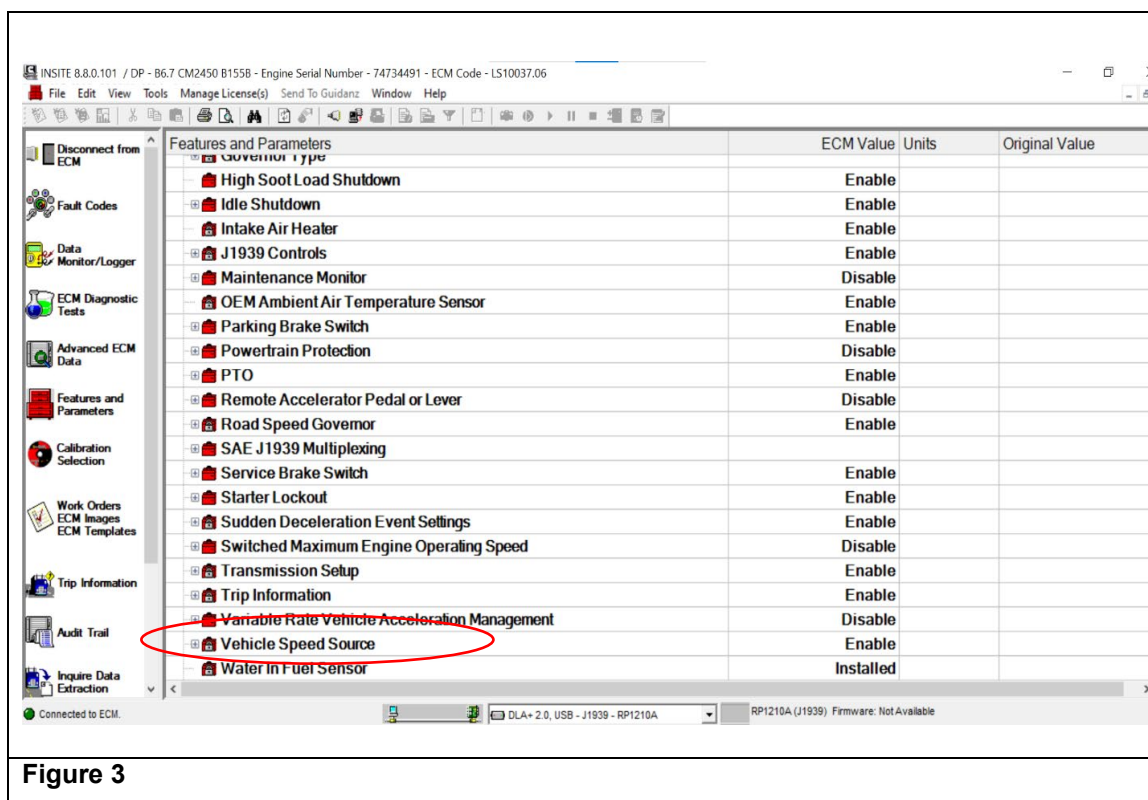

Figure 3
7. Navigate to “Vehicle Speed Source”. (See Figure 3.)